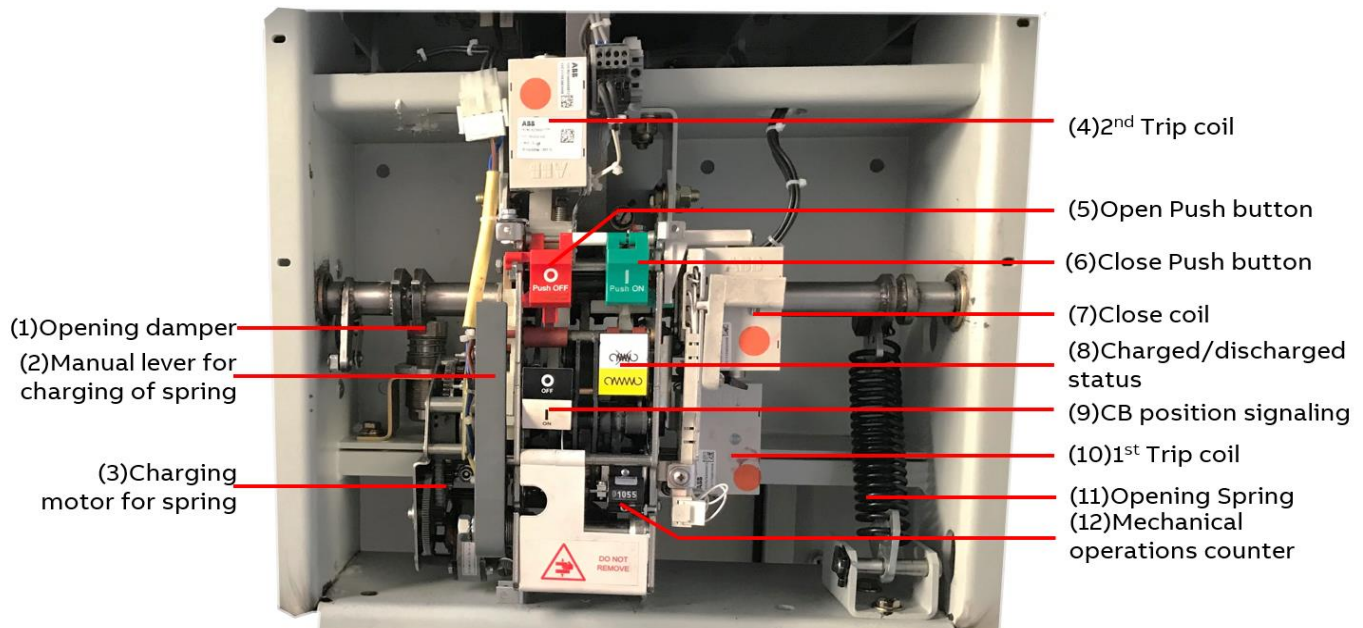

Figure 9 - Circuit breaker operation
Circuit breaker operation can be either manual or electrical (Figure 9 - **Circuit breaker operation**)
1. Discharge the spring by closing and opening the circuit-breaker by means of the closing and opening pushbuttons in front of the mechanism (See Figure 9)